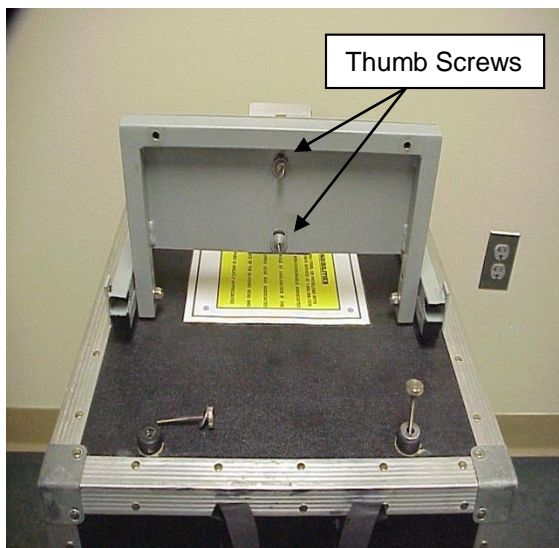

Figure 50
13.9.1 Remove two (2) fasteners (knurled-head bolts) that secure front of Payoff Stand Shelf to Inner Case. Lift hinged Shelf to gain access to two (2) bolts (thumb screws) under Blowing Head. **See Fig. 50.**